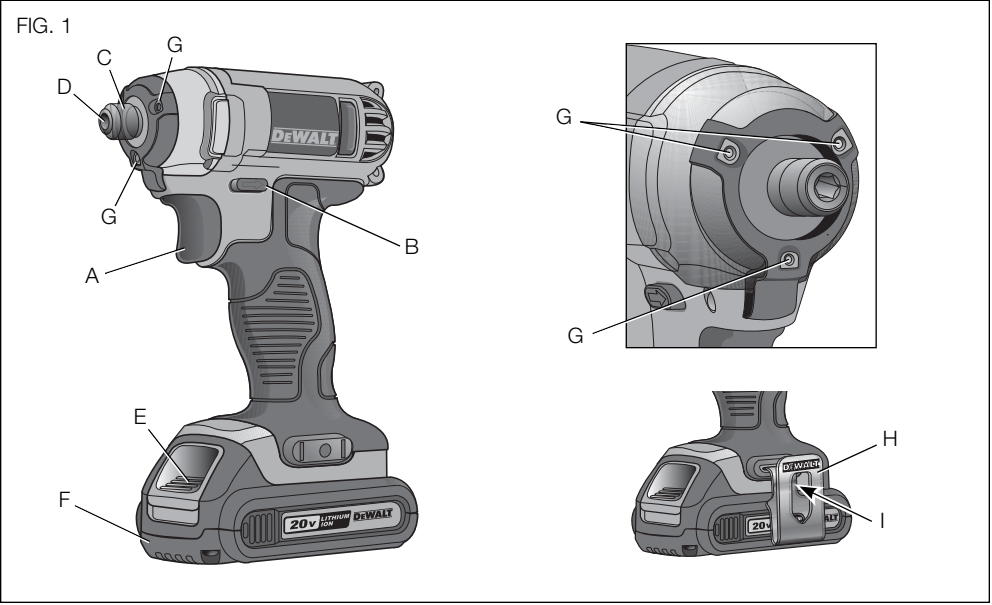

FIG. 2
Charging Procedure (Fig. 2)
2. Insert the battery pack (F) into the charger, as shown in Figure 2, making sure the pack is fully seated in charger. The red (charging) light will blink continuously, indicating that the charging process has started.